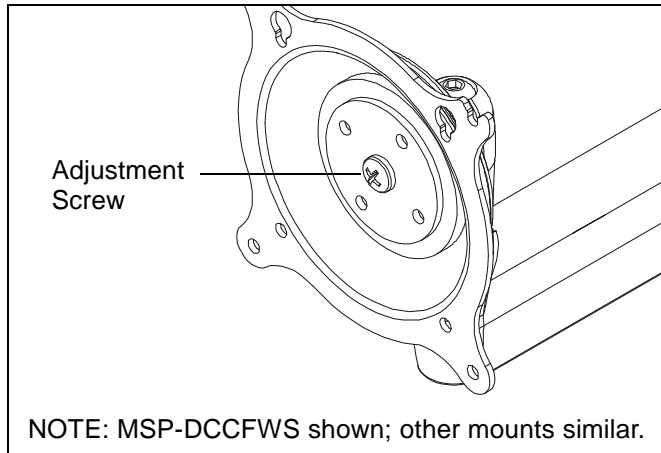

Figure 12
2. Using Phillips screwdriver, slightly loosen or tighten the adjustment screw as necessary. (See Figure 12)